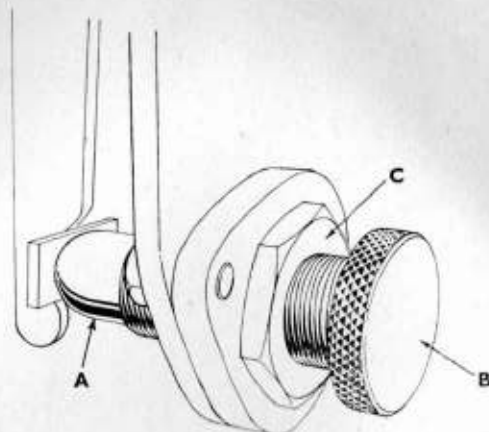

Fig. 6
- (c) To time the Engine correctly, mesh the two Teeth marked with dots on the Camshaft Gearwheel, (A) either side of Tooth marked with a dot on the Crankshaft Gearwheel (B).
50. The Governor (Fig. 6).